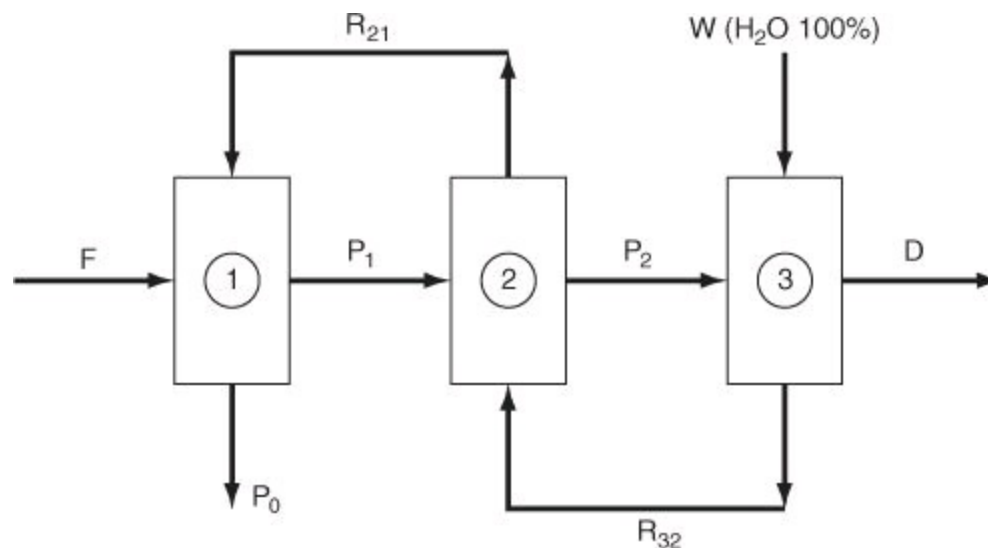

Figure P6.3.14
*****6.3.14.** A plating plant has a waste stream containing zinc and nickel in quantities in excess of that allowed to be discharged into the sewer. The proposed process to be used as a first step in reducing the concentration of Zn and Ni is shown in Figure P6.3.14. Each stream